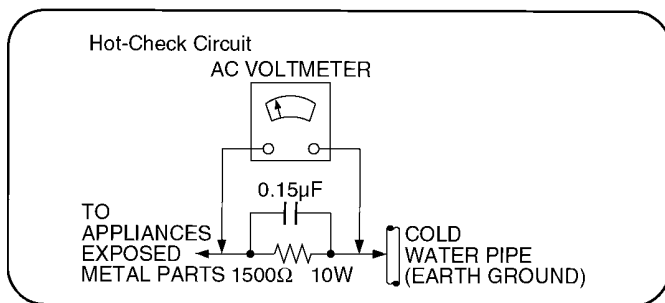

Figure 1
2.1.2. LEAKAGE CURRENT HOT CHECK (See Figure 1.)
2. Connect a $1.5k\Omega$, 10 watts resistor, in parallel with a $0.15\mu F$ capacitors, between each exposed metallic part on the set and a good earth ground such as a water pipe, as shown in Figure 1.